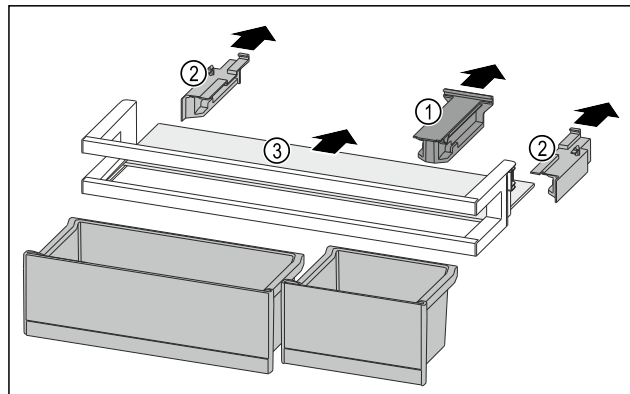

Fig. 275
- Pull off the holding part Fig. 275 (1).
- Pull off the side parts Fig. 275 (2).
- Remove the shelf Fig. 275 (3).